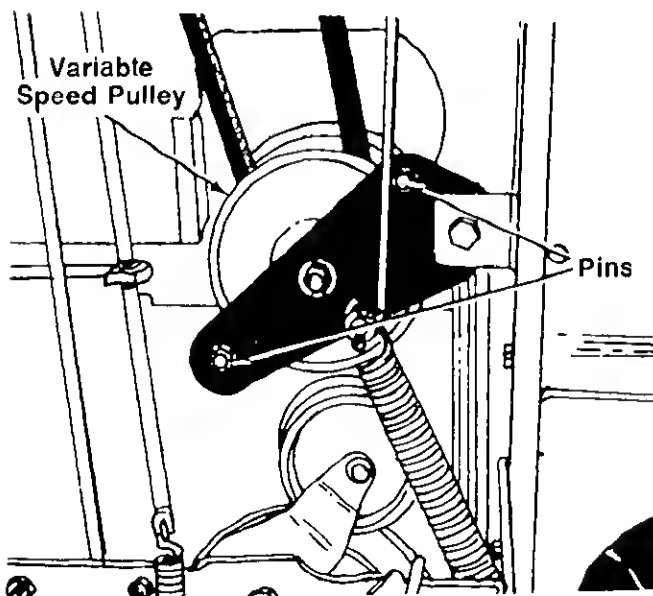

**FIGURE 23.**
6. Remove the engine pulley belt guard by slipping it back and to the right. See figure 23.